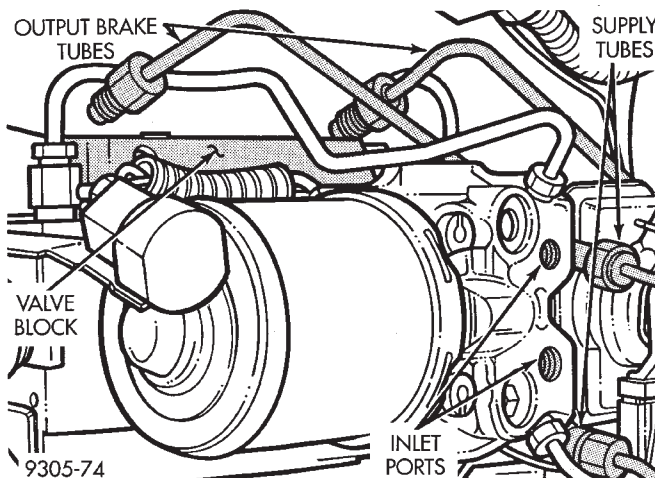

Fig. 9 Brake Fluid Tube Connections At (HCU)
(2) Connect the 2 brake fluid supply tubes from the master cylinder onto the inlet ports of the (HCU) (Fig. 9). Connect the 2 brake fluid output tubes to the ports on the (HCU) valve block (Fig. 9). Torque all 4 brake tube fitting nuts to 19 N•m (14 ft. lbs.).